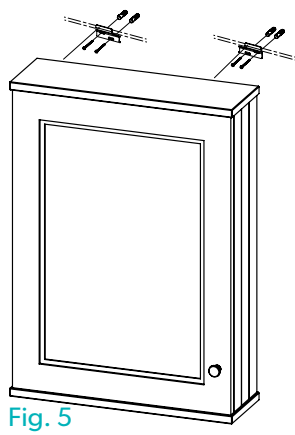

Fig. 5
1. Using a spirit level, mark a horizontal line below the pencil mark, taking into account the location of the furniture hangers. Place brackets on the pencil line paying attention to the distance between the furniture hangers. Carefully mark the position of the holes using a soft pencil. (Fig. 5).
1. Fix the brackets to the wall using the screws provided (Fig. 5).